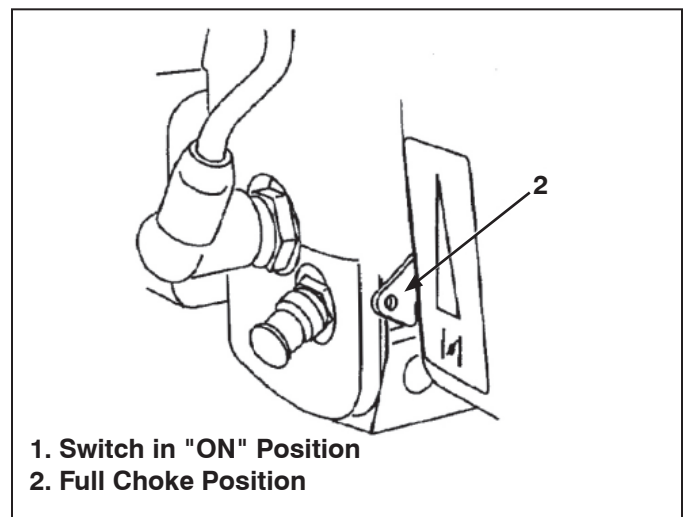

Fig. 7 Switch and Full Choke Positions
3. Move choke control lever to "Full Choke" Position (see equipment manufacturer's instructions). See Fig. 7